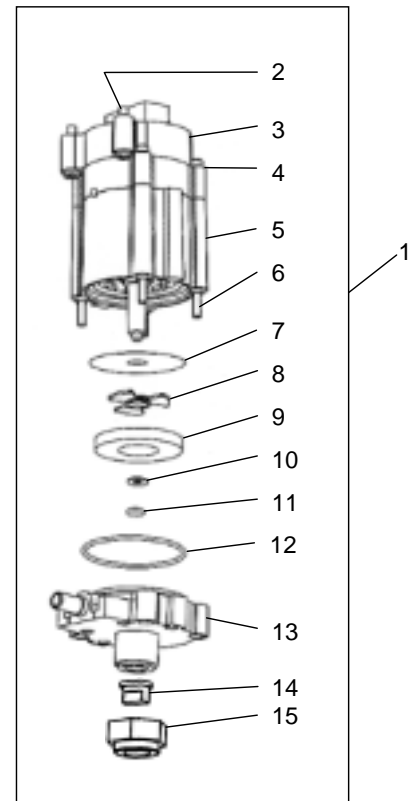

Figure 1: Internal Filter Assembly Order
5.63. Disassemble the internal pieces for cleaning. (See Figure 1 for component identification)
6.61. Assemble the filter, spacer, magnet, washer and o-rings, as shown in Figure 1. This is best accomplished by holding the Body with the long shaft upwards.